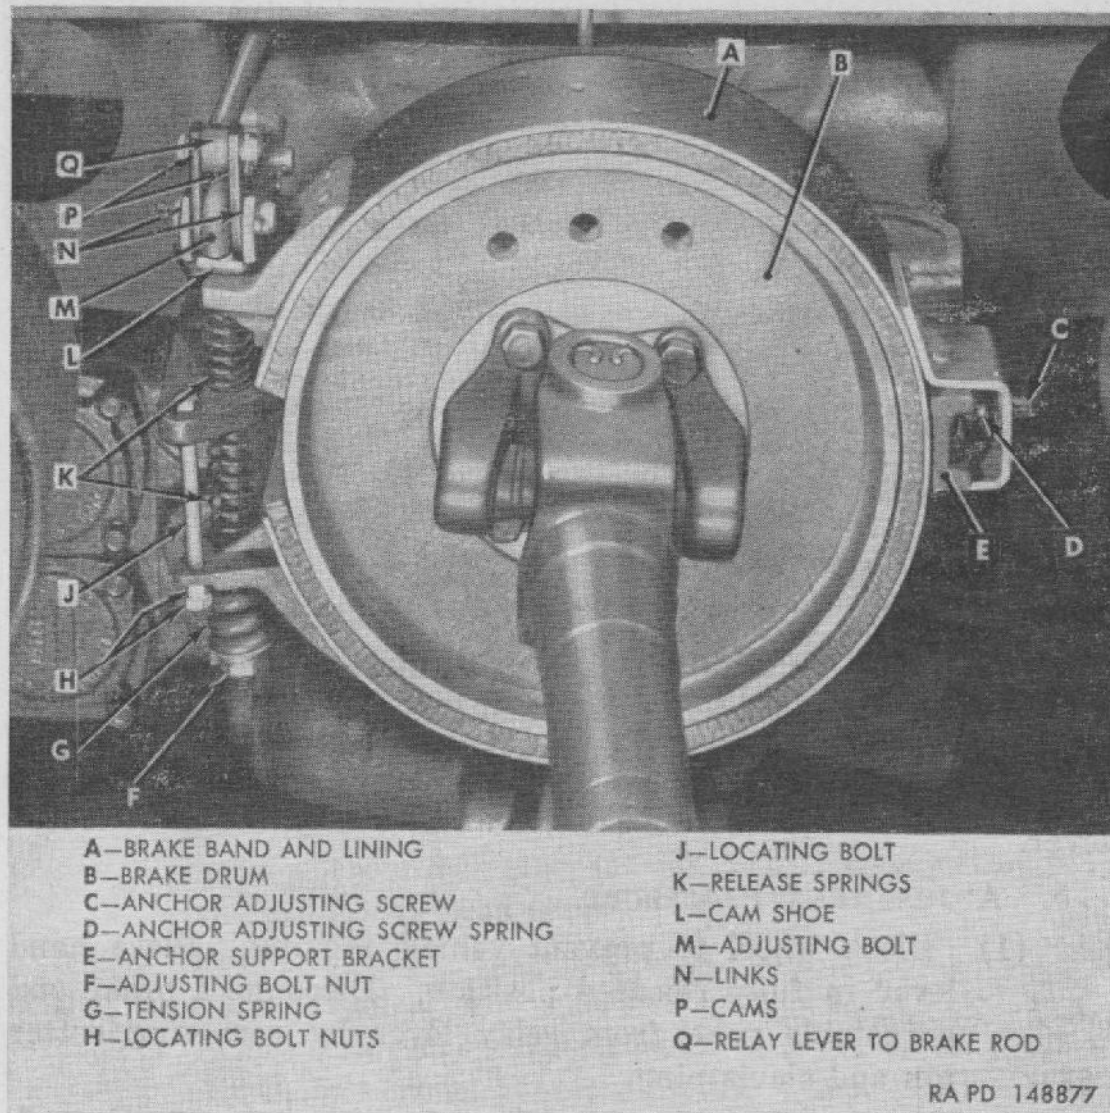
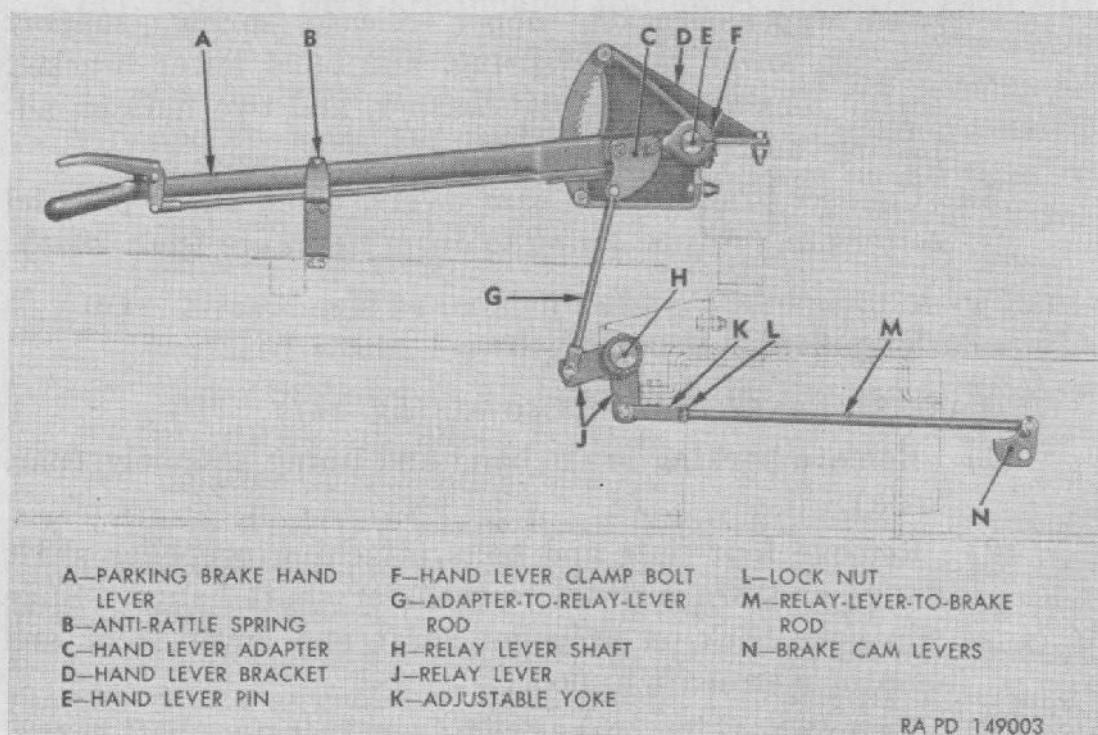

Figure 137. Parking brake drum and band installed on transfer.
Figure 138. Parking brake linkage.
a. DESCRIPTION. Parking brake is an external-contracting one-piece band-type brake, located at rear of transfer assembly (fig. 137). Parking brake drum is installed between transfer-to-pillow-block propeller shaft flange and transfer output shaft flange. Brake band and lining assembly is supported by a support bracket and anchor support attached to the transfer housing. Parking brake hand lever, located at right of driver in cab, operates brake band through a relay lever and interconnecting rods (fig. 138).
- (1) Block wheel to prevent vehicle moving. Place hand lever in fully released position. Disconnect brake rod adjustable yoke from relay lever by removing cotter pin and clevis pin.
- (2) Remove lock wire from anchor adjusting screw (C, fig. 137). Turn anchor adjusting screw as necessary to obtain a clearance of 0.015 inch between lining and drum. Install lock wire.
- (3) Loosen lock nut on locating bolt (J, fig. 137). Draw up locating bolt until there is a clearance of 0.020 inch between lower end of lining and brake drum. Measure clearance about 1½ inches from end of lining. Tighten lock nut on locating bolt.
- (4) Loosen lock nut on adjusting bolt (M, fig. 137). Draw up adjusting bolt to obtain a clearance of 0.020 inch between upper end of lining and brake drum. Measure clearance about 1½ inches from end of lining. Tighten lock nut on adjusting bolt.
- (5) Adjust yoke on brake rod at relay lever (K, fig. 138) so that clevis pin may be freely inserted through yoke and lever. Install clevis pin and cotter pin; then tighten lock nut against yoke. Remove blocks from wheel.
a. BRAKE BAND AND LINING REMOVAL (fig. 137).
- (1) Block wheels to prevent vehicle moving. Disconnect brake rod from cams by removing cotter pin and clevis pin. Remove cotter pin, clevis pin, and cams from upper end of adjusting bolt.
- (2) Remove nuts, washers, and spring from lower end of adjusting bolt. Lift adjusting bolt straight up out of brake band brackets and support bracket, stripping release springs and cam shoe off bolt as bolt is removed.
- (3) Remove nuts from locating bolt and remove bolt. Remove lock wire from anchor screw; then back screw out of anchor support.
- (4) Slide band and lining assembly rearward off brake drum and anchor support, removing anchor screw spring as band is removed. Pull band and lining assembly off over propeller shaft.
b. BRAKE BAND AND LINING INSTALLATION (fig. 137).
- (1) Place brake band and lining over propeller shaft. Place anchor screw spring in depression in anchor support, and compress spring as brake band and lining assembly is placed over brake drum and anchor support.
- (2) Thread anchor screw into anchor support until it contacts brake band. Insert locating bolt down through hole in support bracket and brake band lower bracket. Install two nuts on locating bolt.
- (3) Install cams between links and install clevis pin and cotter pin.
- (4) Insert threaded end of adjusting bolt down between cam levers with hook toward rear of vehicle; as bolt is lowered into place, it must pass through cam shoe, band upper bracket, upper release spring, support bracket, lower release spring, and band lower bracket. Install tension spring, flat washer, and two nuts on adjusting bolt.
- (5) Connect brake rod to cam levers, using clevis pin and cotter pin. Adjust lining to drum clearance (par. 234*b*).
a. PARKING BRAKE DRUM REMOVAL (fig. 137).
- (1) Remove parking brake band and lining assembly (par. 235*a*).
- (2) Remove four nuts and bolts attaching propeller shaft flange and brake drum to transfer shaft flange. Slide slip yoke back on propeller shaft and lower front end of propeller shaft to floor.
- (3) Remove parking brake drum from transfer shaft flange. Do not drop locating ring out of inside of drum.
b. PARKING BRAKE DRUM INSTALLATION (fig. 137).
- (1) Make sure shoulder on transfer shaft flange and mating surface on brake drum web are clean and smooth. Make sure locating ring is in place in center of drum. Position drum on flange with bolt holes alined.
- (2) Raise propeller shaft, position propeller shaft flange against brake drum, and install four bolts. Install nuts on bolts and tighten to 33-43 pound-feet torque.
- (3) Install parking brake band and lining (par. 235b).
a. PARKING BRAKE HAND LEVER REPLACEMENT (fig. 138).
- (1) *Removal.* Remove cotter pin, clevis pin, and two flat washers (spacers) attaching brake rod to hand lever adapters. Remove nut from clamp bolt securing hand lever on lever pin, remove clamp bolt, and then remove hand lever from pin.
- (2) *Installation.* Install hand lever on lever pin, with clamp bolt hole alined with groove in pin. Install nut on clamp bolt and tighten to 20-27 pound-feet torque. Connect brake rod to hand lever adapters, using clevis pin, two flat washers, and cotter pin; one flat washer must be installed on each side of brake rod eye between adapters. Apply parking brake; if hand lever reserve
b. PARKING BRAKE RELAY LEVER REPLACEMENT (fig. 138).